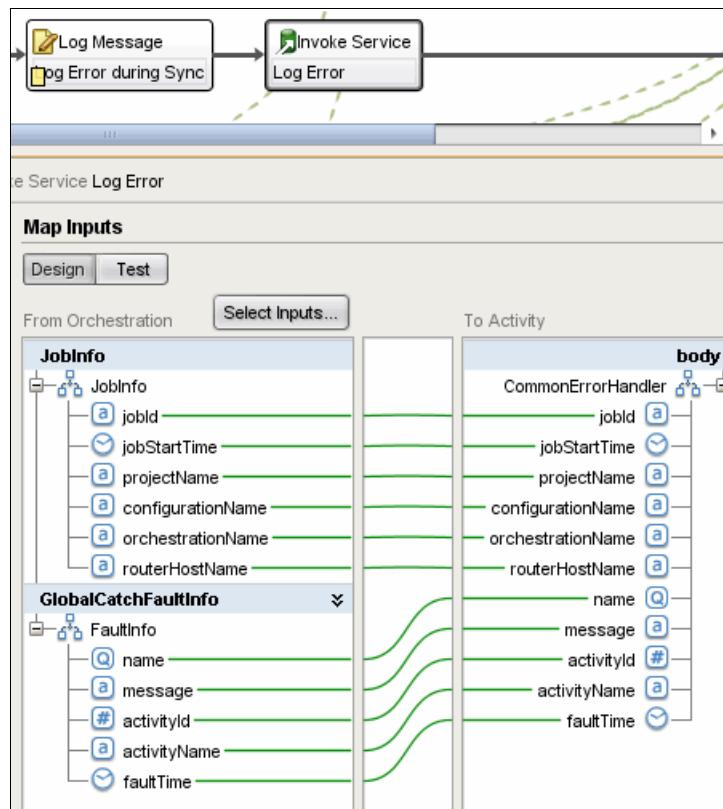

Figure 10-68 Configure Common Error Handler
- Compare the orchestration with that shown in Figure 10-68, and verify that all fields of the CommonErrorHandler variable are mapped.